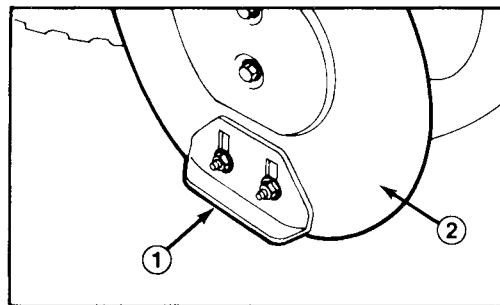

Figure 21
1. Move snowthrower to a level surface. Next, loosen four flange nuts (Fig. 21) securing both skids to auger side plates. Skids must slide up and down.
3. Loosen four flange nuts (Fig. 21) securing both skids to auger side plates. Next, slide skids down as far as possible so auger is as far from level surface as skid adjustment allows; then tighten flange nuts.